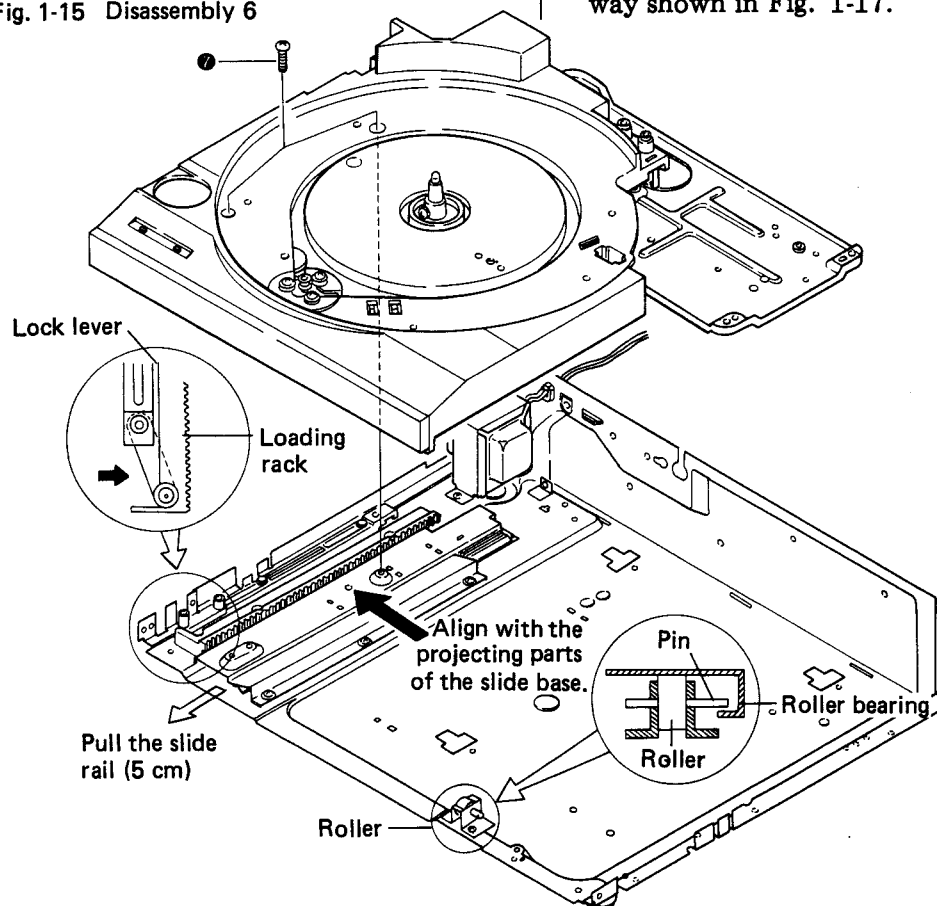

Fig. 1-17 Mounting the slide base
1. Load the lock lever in the loading rack as shown in Fig. 1-17, and pull the slide rail forward from the normal inserted position by at least 5cm.
2. Engage the roller ass'y pin with the roller bearing mounted on the slide base in the way shown in Fig. 1-17.